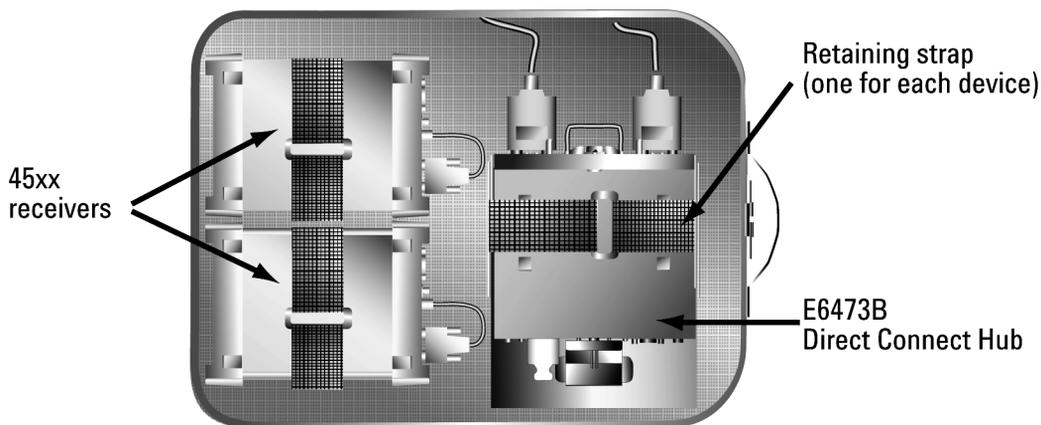

Figure 34 Two receivers and Direct Connect Hub mounted to the platform
Refer to Figure 34 on page 68 for receiver and Direct Connect Hub mounting positions. Use the straps provided to secure the components to the platform.
- 1 Place the component platform inside the backpack, as shown in Figure 34 on page 68. It attaches to the backpack with Velcro fasteners.